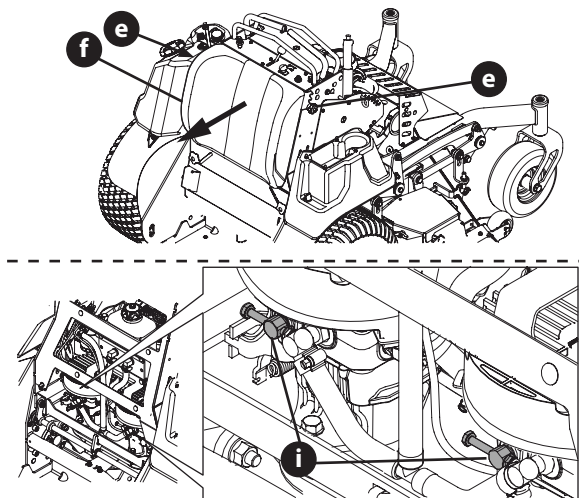

Fig. 2
3. Perform the following to open the two hydrostatic transmission bypass valves (Fig. 2):